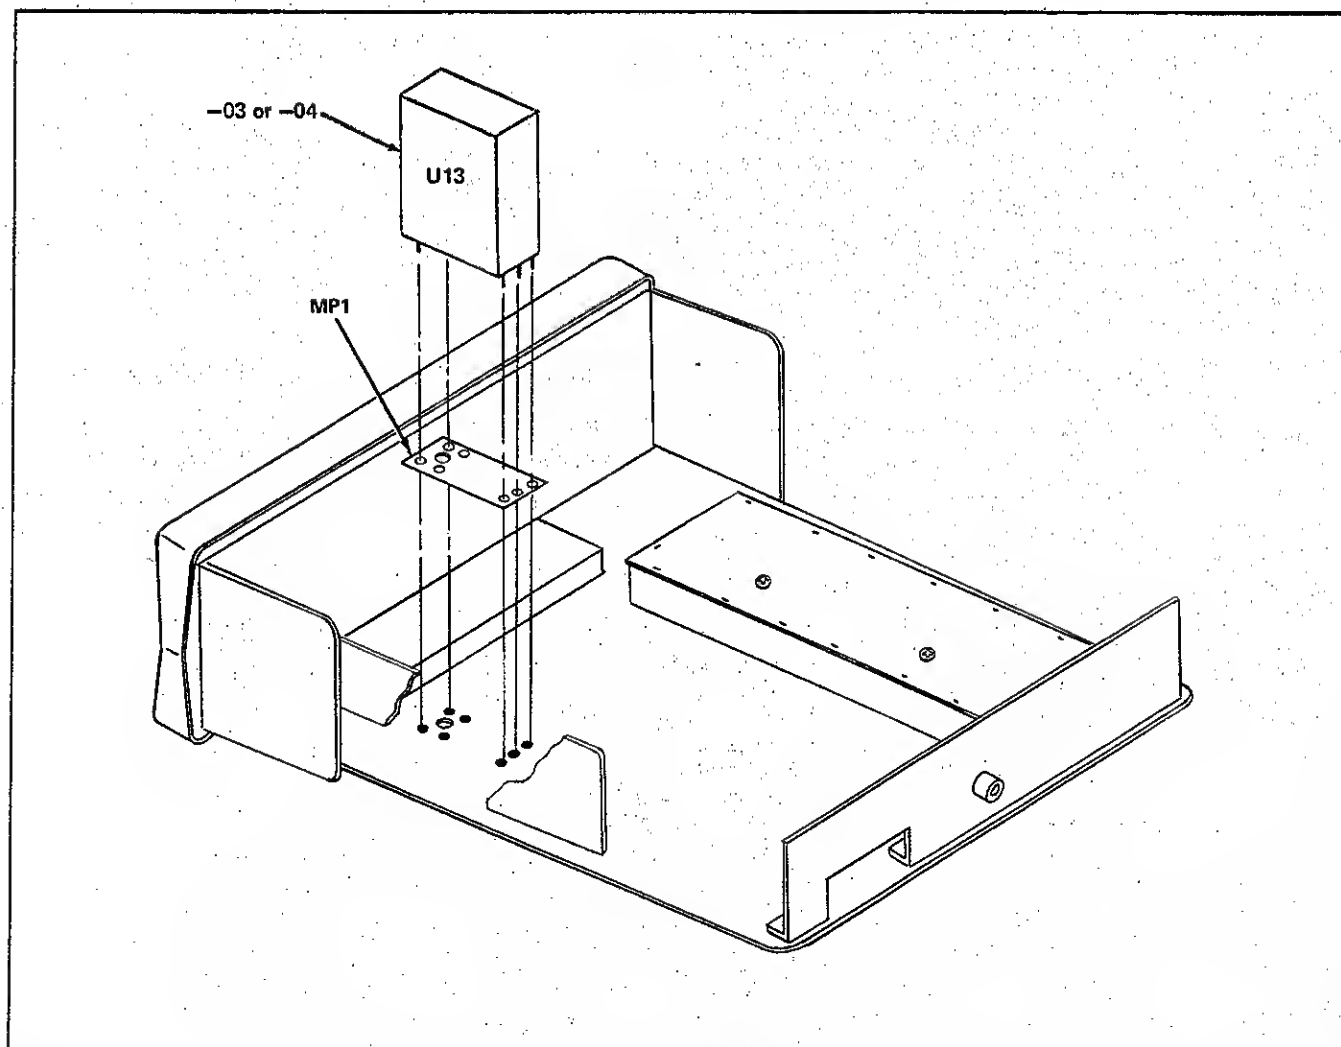

Figure 603-2. -03/-04 TCXO Assembly
603-6. The —03 TCXO is a completely sealed unit, containing no replaceable parts (See Figure 603-2).
- 604-6. The —04 TCXO is a completely sealed unit, containing no replaceable parts (See Figure 603-2).